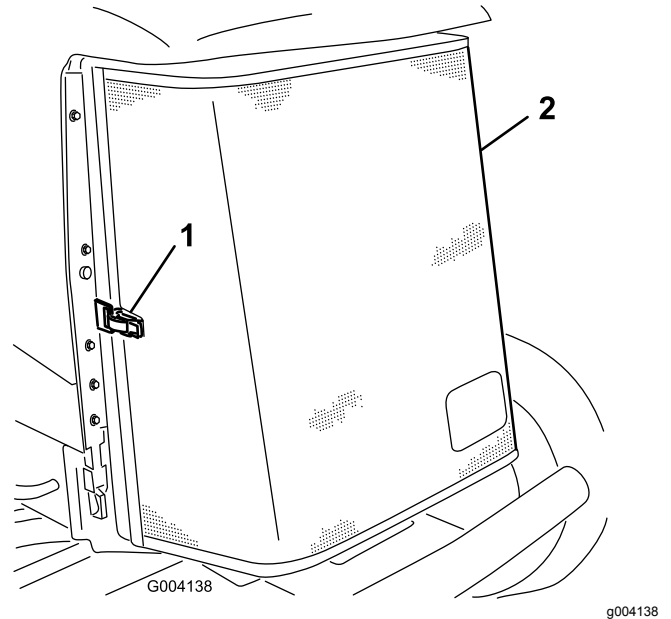

Figure 94
3. Unlatch the clamp and pivot open the rear screen (Figure 94).